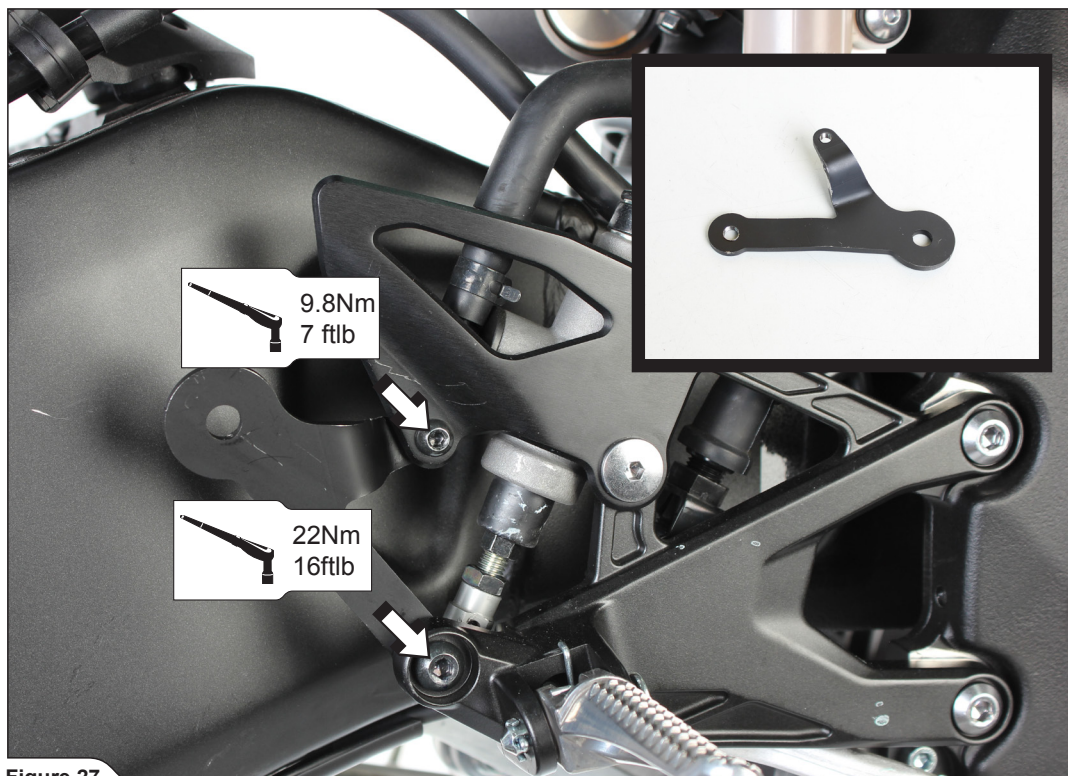

Figure 27
4. Mount Akrapovič muffler bracket onto the motorcycle, as shown and tighten with specified torque (Figure 27).